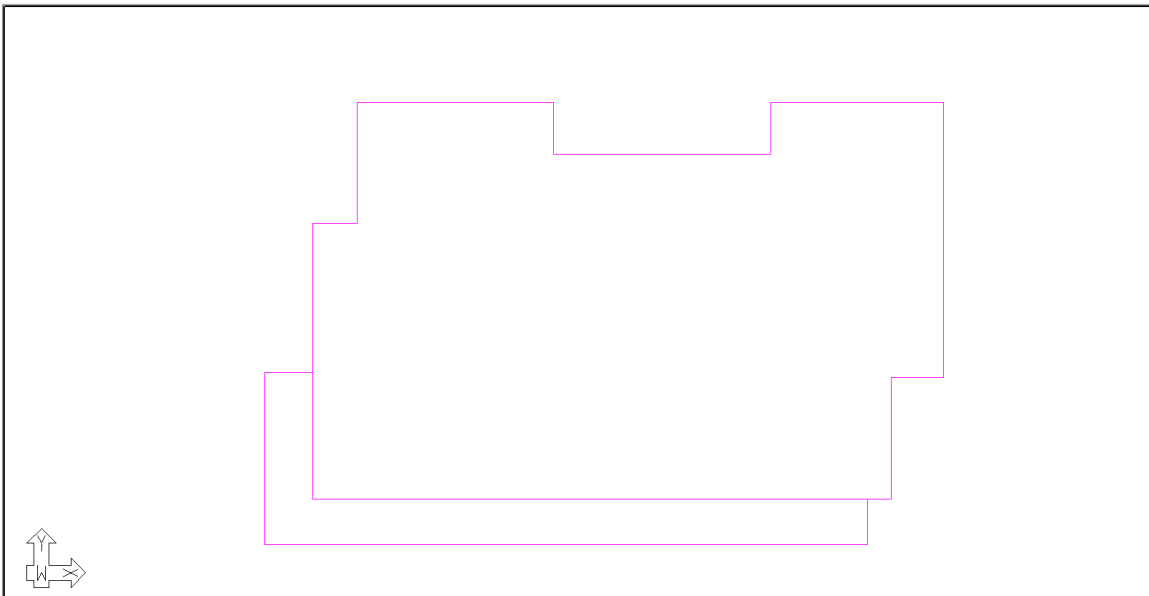

FIGURE 3-10
- Click on the **OK** button, the user should now see the slab region polylines from the imported CAD file as shown in **FIGURE 3-10**.